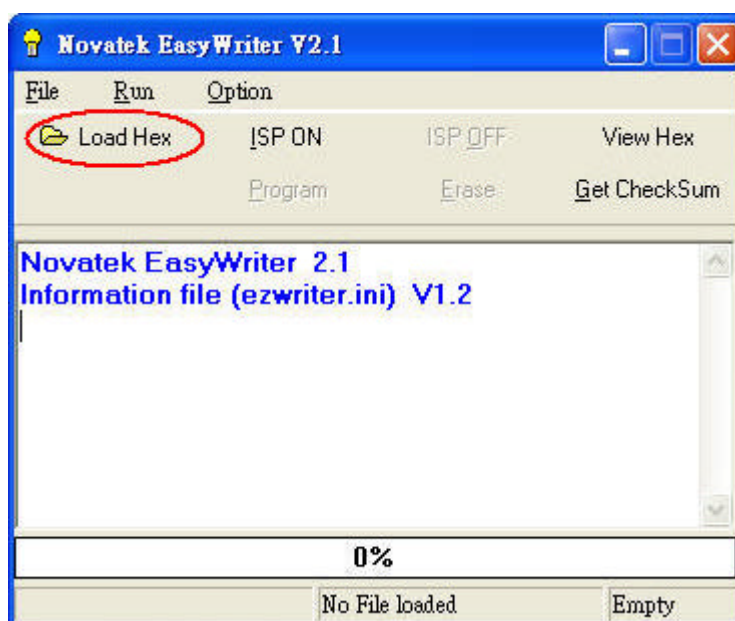

Fig.2.1
2.1 press “ Load Hex “ button to load the hex file , see fig2.1